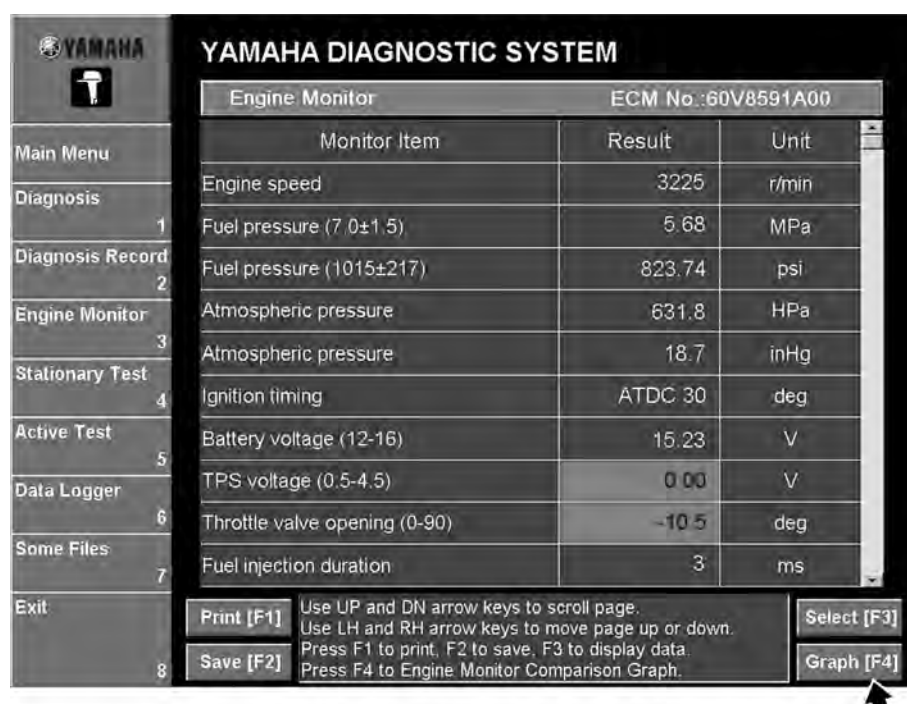

Fig. 49
1. Click the **Graph [F4]** button at the bottom right of engine monitor window, or else hit the F4 key. (Fig. 49)